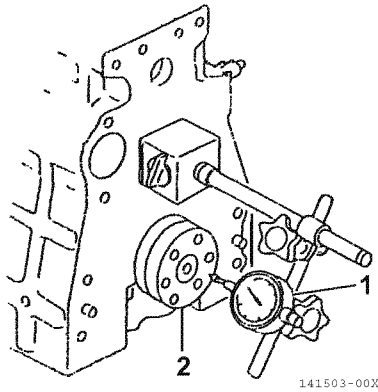

Figure 6-65
- **Method A:** Install a dial gauge (1, **Figure 6-65**) on the cylinder block. Move the crankshaft (2, **Figure 6-65**) in and out to measure the end play. Record the measurement.